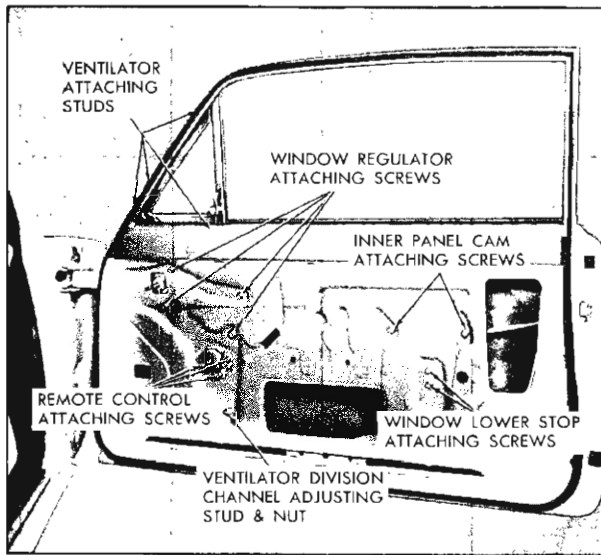

Fig. 12-20 Door Hardware Attachments
3. Remove screws securing remote control assembly to door inner panel. Pull remote control away from door inner panel; then rotate remote control assembly one quarter turn to disengage connecting link from remote control assembly. Remove control assembly and connecting link from door (Fig. 12-20).
4. Carefully lower door window to extreme down position. Remove three door window frame to ventilator attaching screws and one inner panel to ventilator attaching screw (Fig. 12-20).
in or out as required or position channel fore or aft as required; then tighten stud nut. Seal water deflector and install door trim and inside hardware (Fig. 12-20).
2. Remove two (2) inner panel cam attaching bolts (Fig. 12-20).